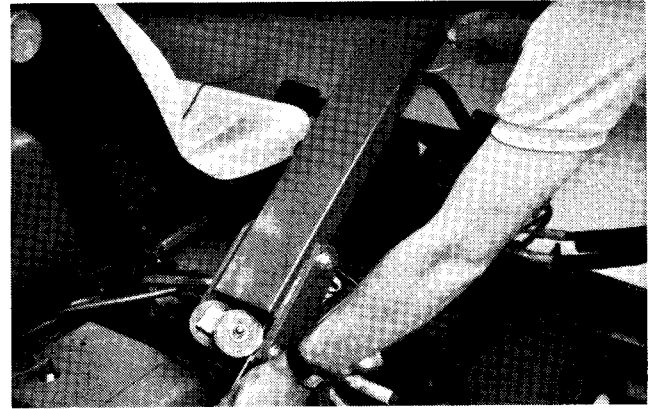

Figure 10
7. While holding cable tight around upper internal steering arm pulley, make sure cable is correctly wrapped around steering wheel pulley. Continue to keep tension on cable near middle steering arm pulleys and insert threaded cable end through lower part of steering arm and around upper (right hand) pulley (Fig. 10).